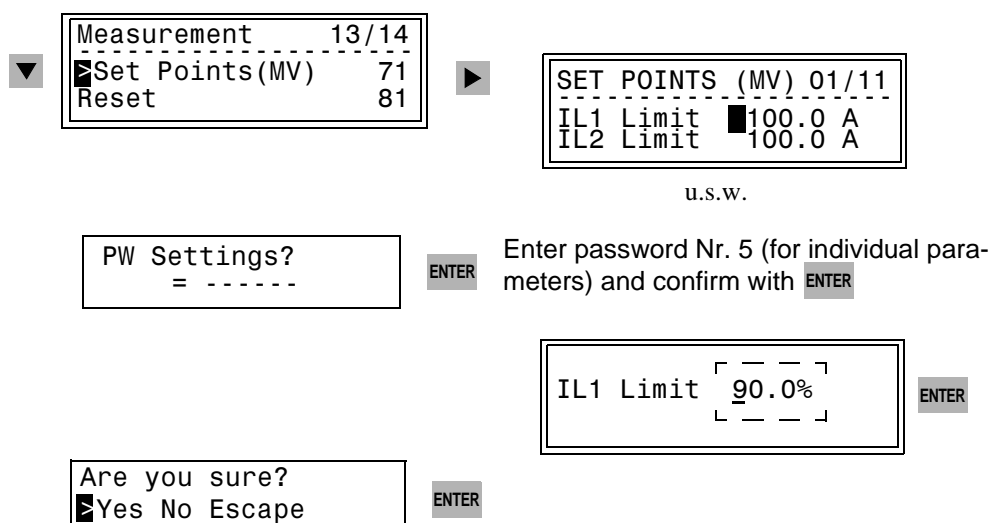

Figure 7-20 Setting of set-points on the device front — example
There, select the menu item **Set Points (MV)** with the **▼** key, and switch to the list of limit values using the **▶** key (see Figure 7-20).